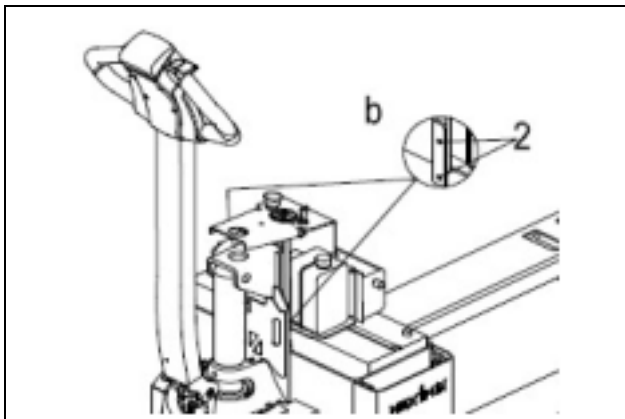

Figure 3-3 Screw Removal
- b. Remove four screws (1, Figure 3-3), four washers (2).